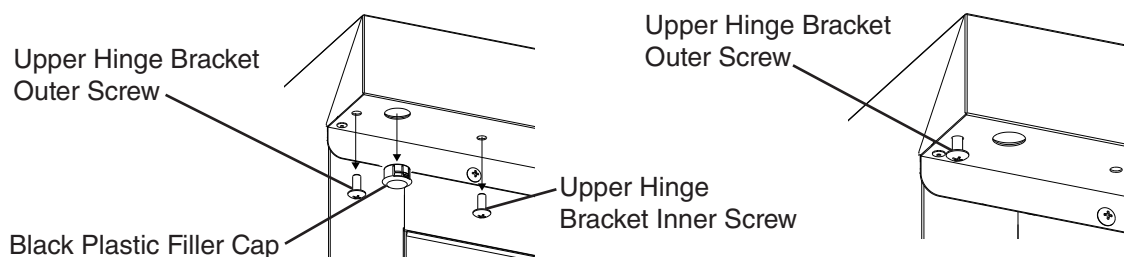

Fig. 30
- 15) Remove the upper hinge bracket screws from the new location and apply Loctite Threadlocker Blue 242 or 243 to the threads. Next, start the upper hinge bracket outer screw into the appliance. Rotate a few threads into the appliance; do not tighten the screw. See Fig. 30.